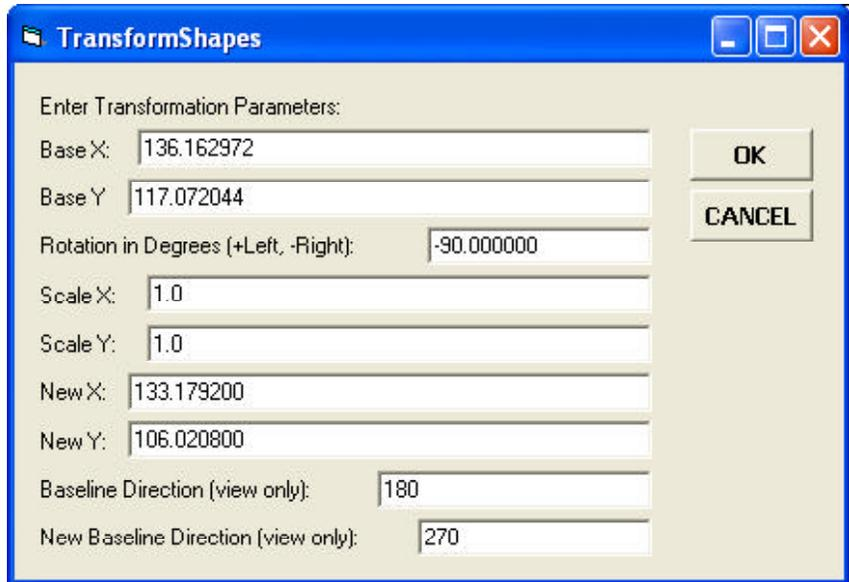

Figure 7 - Transformation Dialog Box
- Click at the *Yes* button to display the dialog box of Figure 7.